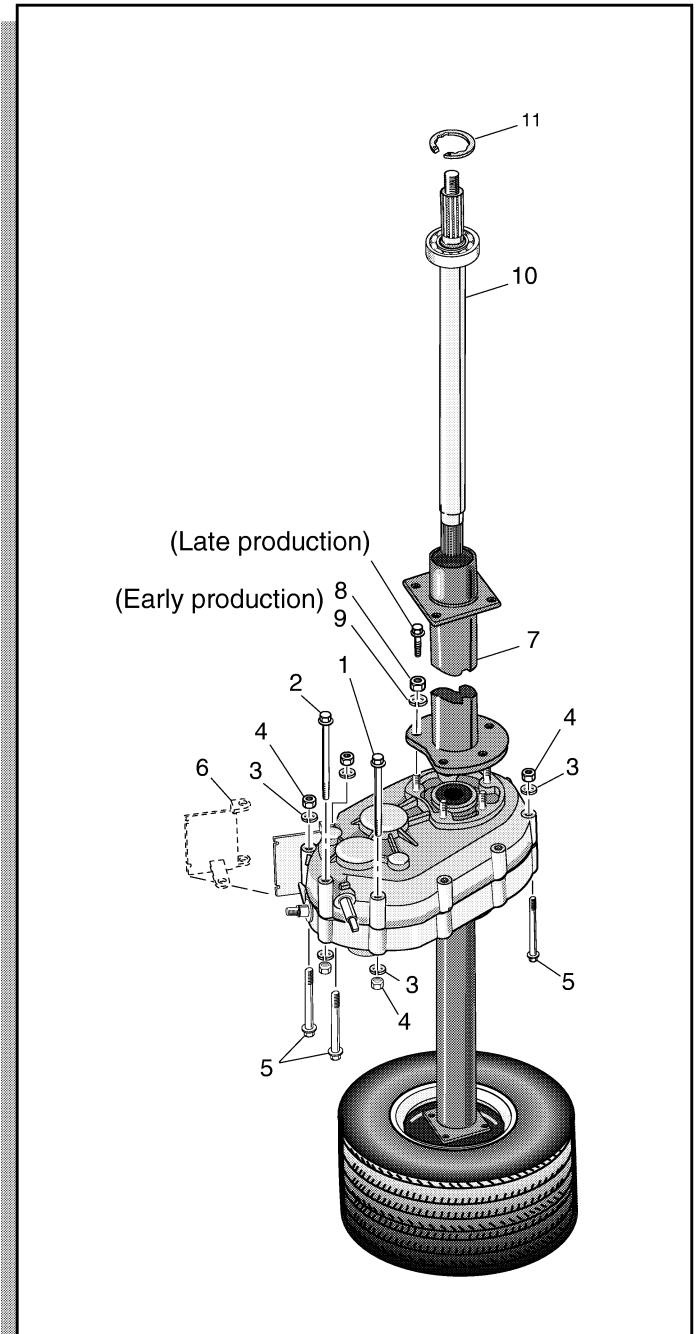

Fig. C-22 Casing Bolts and Axle Tube Installation
1. Install the two accelerator bracket/transaxle casing bolts (1, 2) with lock washers (3), and two nuts (4) each, in the positions and direction shown. Do not tighten them (Ref Fig. C-22 on page C-9).
- Position the axle tube (7) on the mounting studs in the casing and install five nuts (8) with lock washers (9). Tighten nuts to specified torque (Ref Fig. C-22 on page C-9).
- Lubricate the axle shaft (10) and carefully insert it through the axle tube and into the transaxle casing, short spline end first (Ref Fig. C-22 on page C-9).
- Use snap ring pliers to install the outer axle tube retaining ring (11) (Ref Fig. C-22 on page C-9).